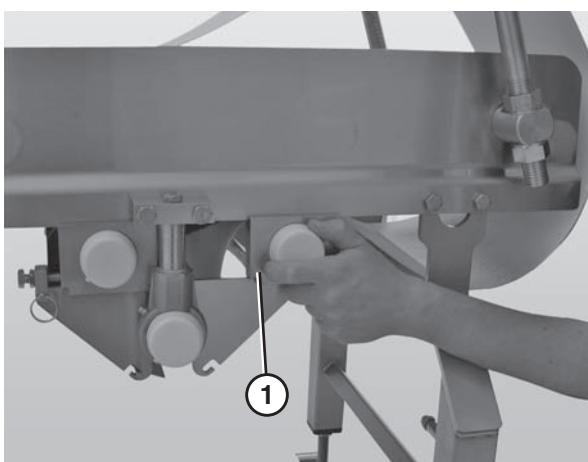

Figure 17
4. Slide the tension spindle assembly (**Figure 17, item 1**) out of the housing.
9. Slide the tension spindle assemblies (**Figure 17, item 1**) back into the housing.